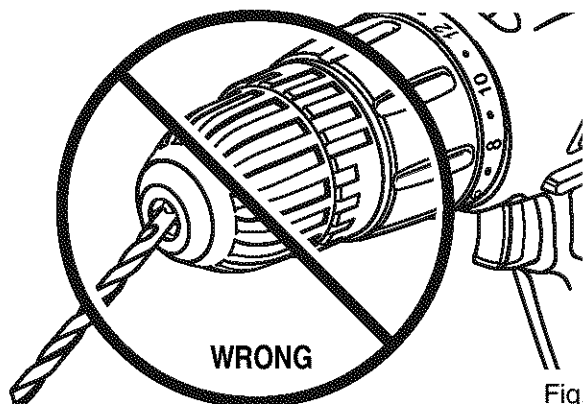

Fig. 7
**⚠ WARNING:** Make sure to insert drill bit straight into chuck jaws. Do not insert drill bit into chuck jaws at an angle then tighten, as shown in Figure 7. This could cause drill bit to be thrown from drill, resulting in possible serious personal injury or damage to the chuck.